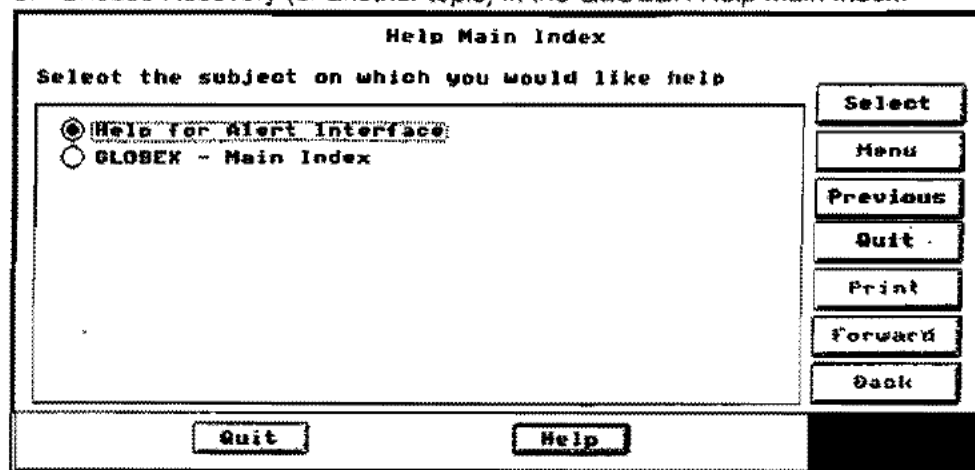

Figure 2.6 Index for Alert interfaces/GLOBEX Help
- **MENU** - Displays a menu that lets you choose between the main index and help on the alert interface. (See Figure 2.6 below.)
3. Click on the **Menu** button in the Alert help text window. The index shown in Figure 2.6 displays.